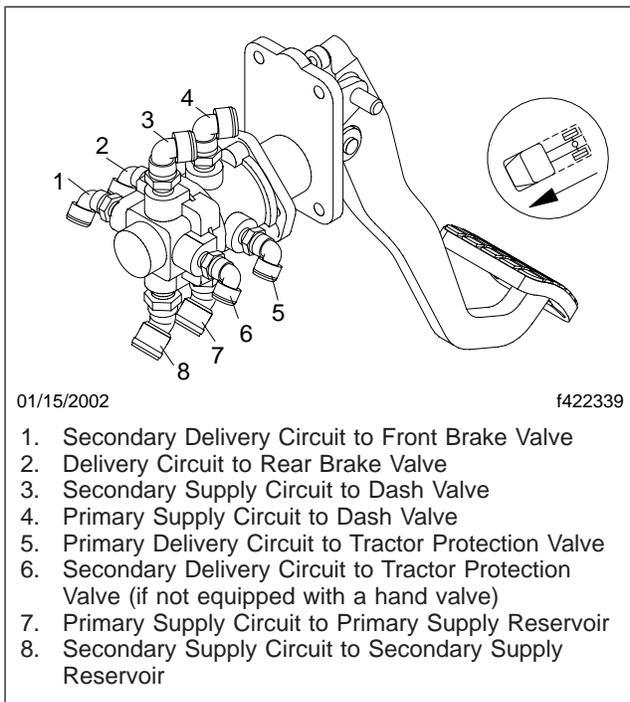
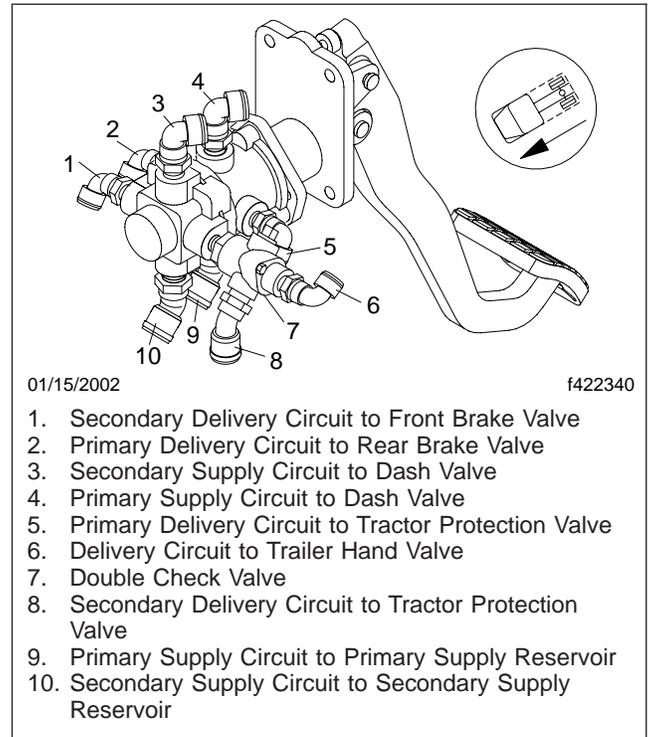

Fig. 1, Brake Valve Plumbing Circuits
Fig. 2, Brake Valve Plumbing Circuits (with double-check valve)
2. Connect test gauges to the primary and secondary delivery ports (ports 21 and 22) on the brake valve. See Fig. 1 and Fig. 2.